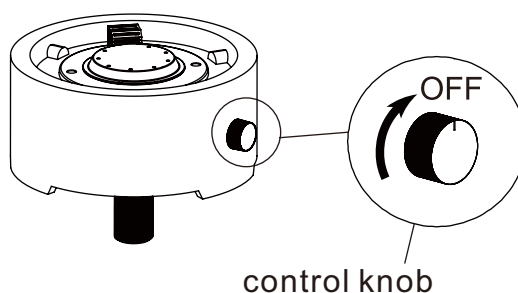

Figure 1
2. Check that the control knob is turned to the "OFF" position before starting any assembly (see Figure 1).